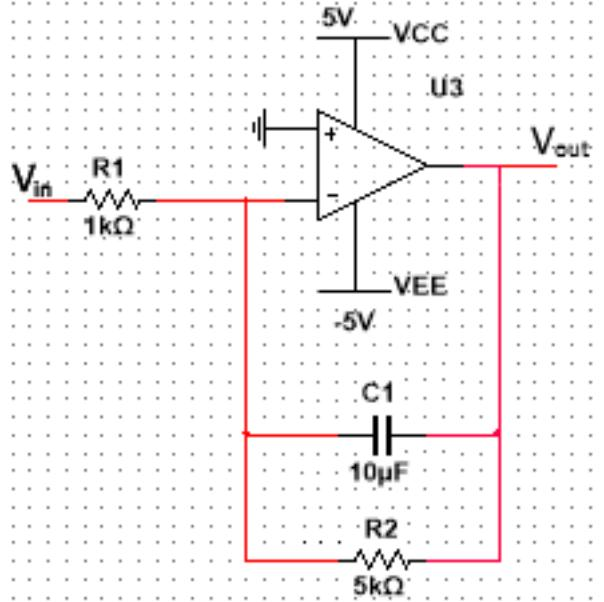

Figure 7.1: Circuit for Lab # 7
- A. Consider the circuit in Figure 7.1 to be an op amp integrator. Using the ideal op amp model and KCL, show that (note: do not consider R_2 as part of the circuit):
- E. Now consider the circuit in Figure 7.1 to be an active low-pass filter. Show that the amplitude response and phase response are: